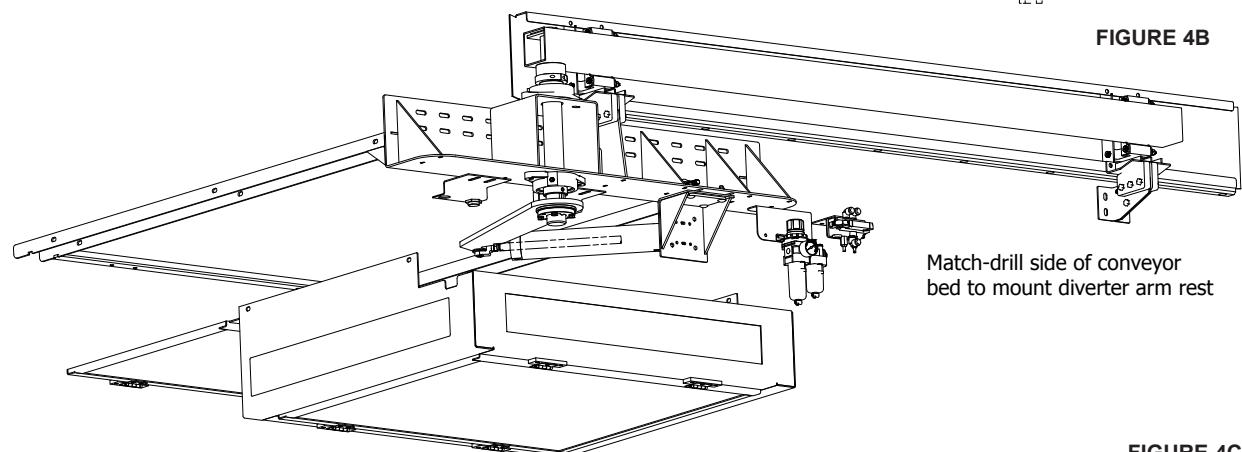

FIGURE 4B
1. The PBD assembly will mount to conveyor bed bottom flange on both sides in 4 locations. Match-drilling may be required for mounting. Mounting of diverter arm rest bracket will required match drilling on side of conveyor bed. (See Figure 4B).